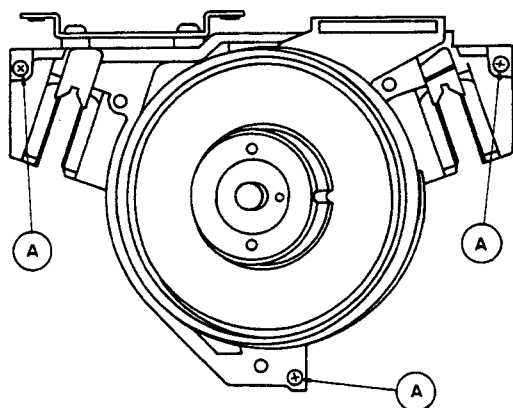

Fig. 2-7
2. Take out 3 screws (A) (Fig. 2-7) and pull the drum assembly upwards to remove it.